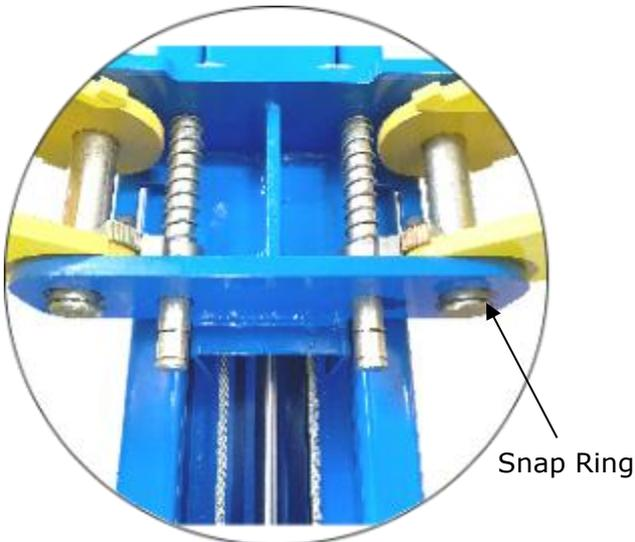

Fig. 35
1. Install lifting arms (See Fig. 35).